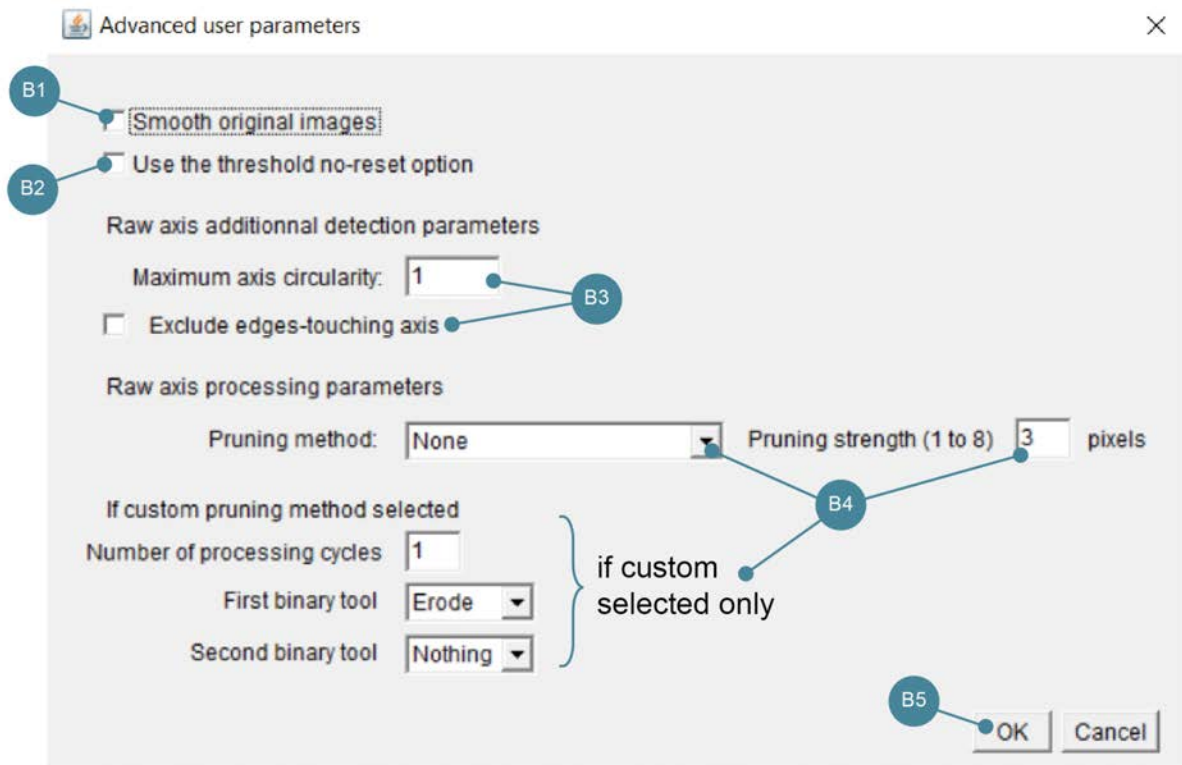

Figure 6.10. The Advanced user parameters menu
**OPTIONAL STEP B.** For precise foci and axis detection, advanced user options are available. These options prove particularly beneficial for images with high noise levels or super-resolution images. When selecting the "Use advanced user option" checkbox, the "Advanced user parameters" window will appear during **STEP 7** (refer to figure 6.10).